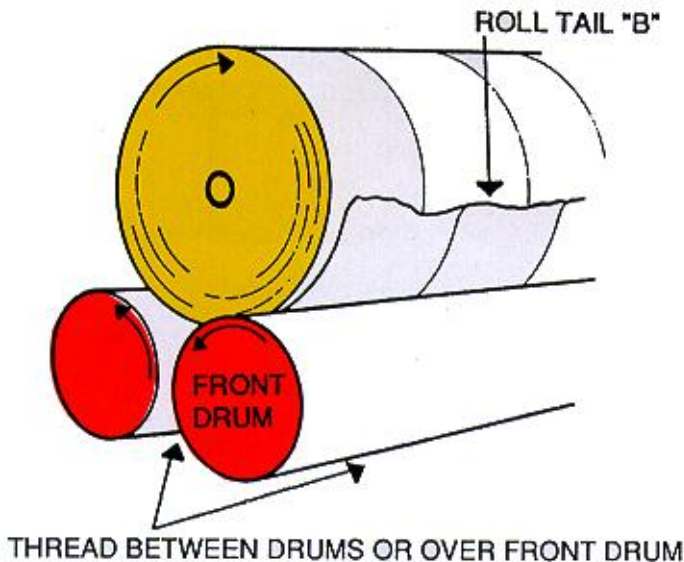

Figure 9
1. Clean off excess paper and make all rolls equal diameter. Figure 9
1. Clean off excess paper and make all rolls equal diameter. Figure 9, Page 7.